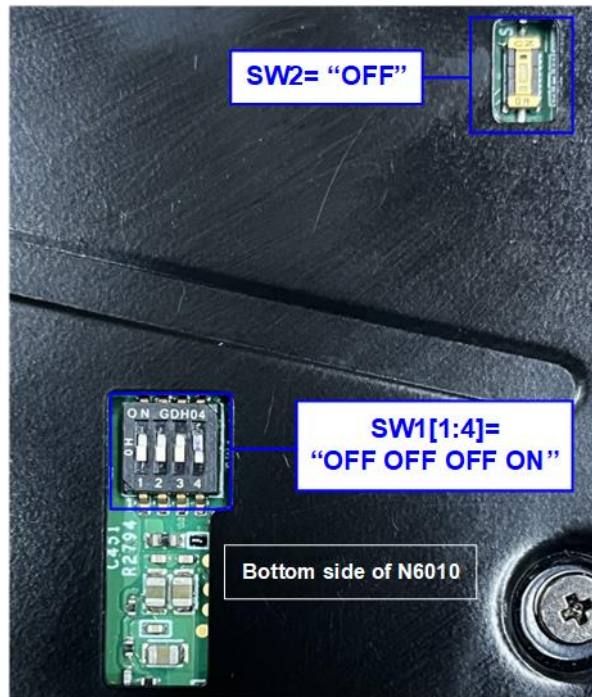

Figure 2 Switch Setting of Silicom N6010 Card
- 1) Setting DIP SW1[1:4] of N6010 card to “OFF OFF OFF ON” and SW2 = “OFF” as shown in Figure 2.